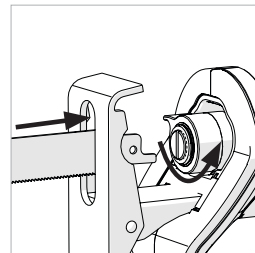

Fig. 2
- Twist and hold the blade clamping dial anti-clockwise. (Fig. 2)